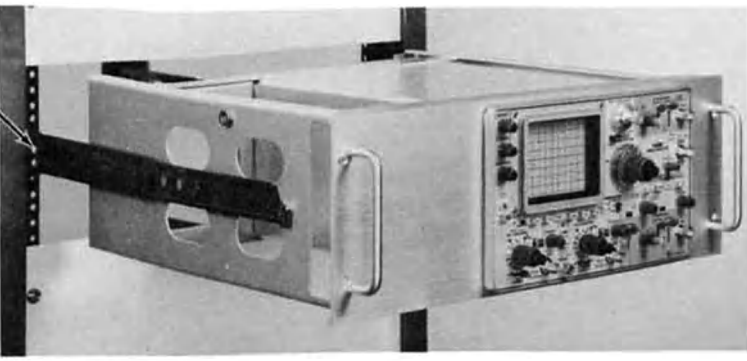

Fig. 6-7. Alignment adjustments for correct operation.
6. Adjust the alignment of the stationary sections according to the procedure outlined in Fig. 6-7.